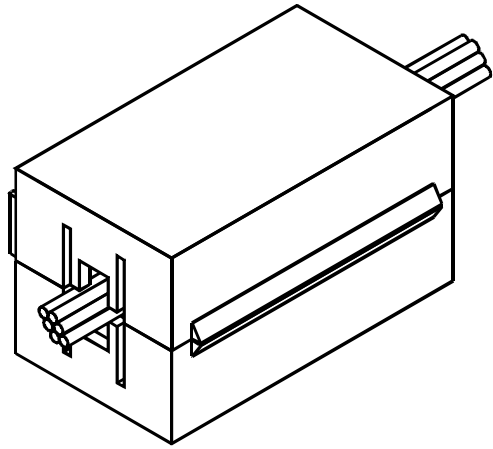

FIG. 3-18 SUPPRESSION CORE INSTALLED
- Step 5. Place all the wire strands in the core and gently close the core until it snaps shut. (See Fig. 3-18)